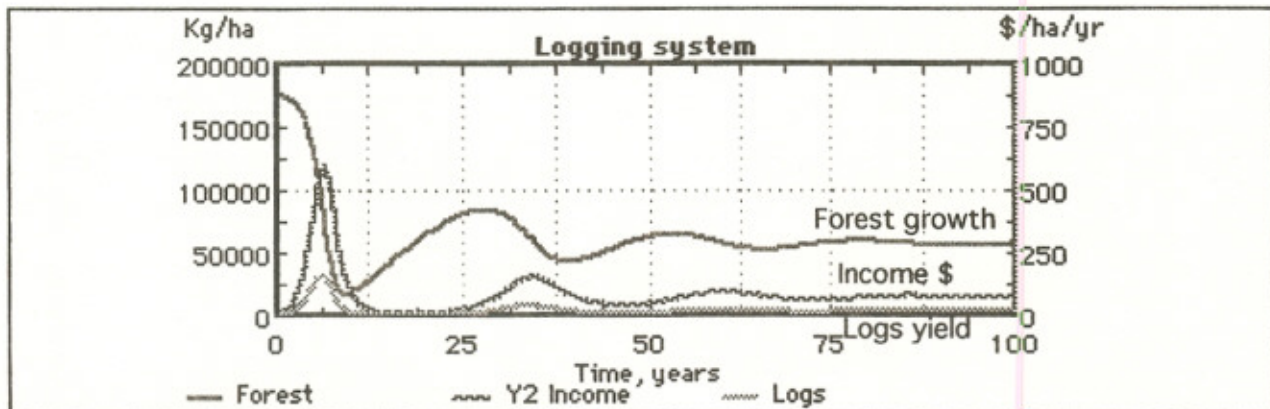
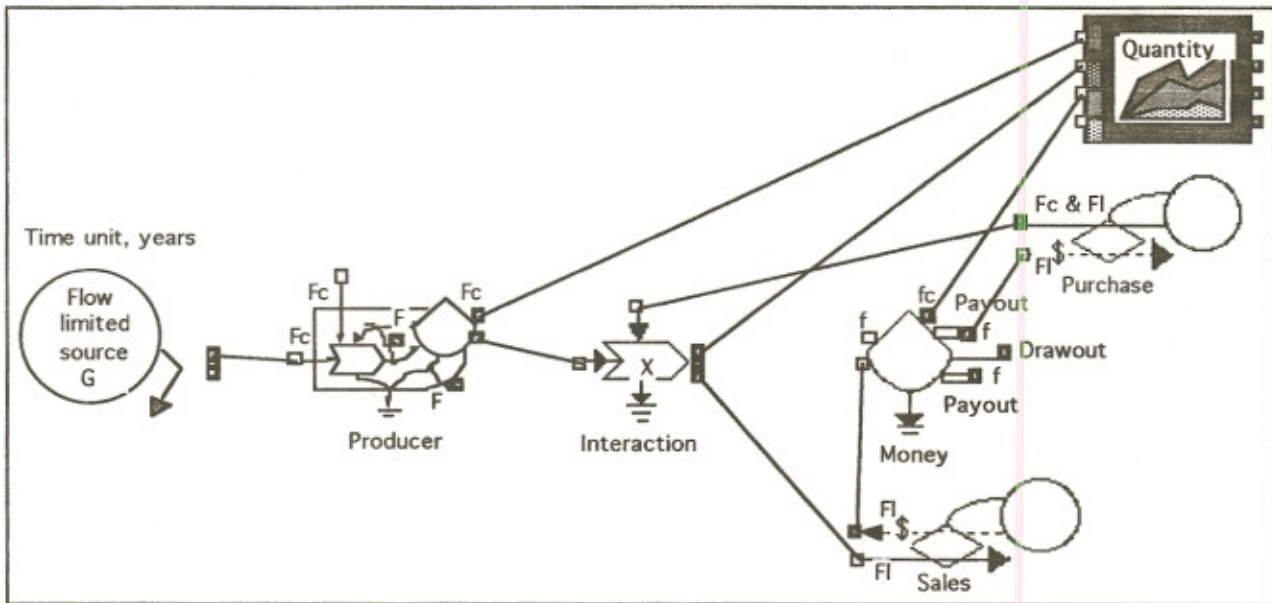

Figure 35. Simulation of logging model.
Figure 36. Logging model with general symbols.
1. Using Figure 35, answer these questions.
Figure 36 shows the same forest system as above, except represented with the General System symbols shown in Figure 21. Open the model file **Logging, general symbols**, run it, and compare the simulation graph to Figure 35. This graph will be somewhat different because it starts with the growth of a new forest. Experiment with some "what ifs."